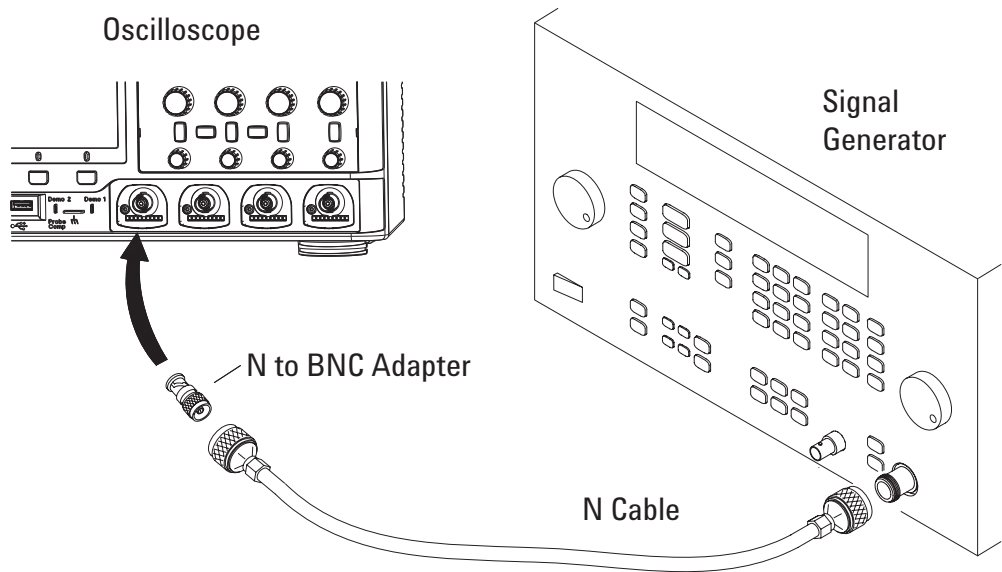

Figure 8 Setting Up Equipment for Internal Trigger Sensitivity Test
- 3 Connect the equipment (see Figure 8).